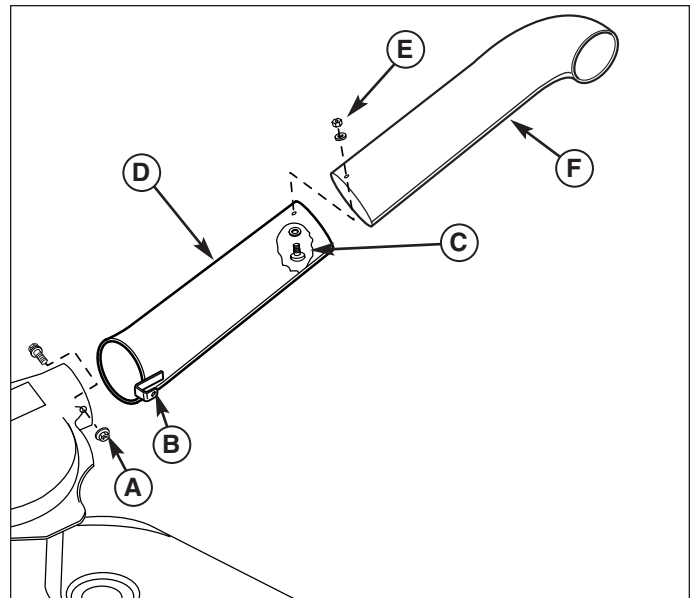

Figure 10. Install Tubes
1. Locate the lower tube (D, Figure 10) and upper tube (F).
2. Assemble the upper and lower tubes using two #10-32 x 1/2 screws (C), washers, and #10-32 nuts (E).
4. Connect the lower tube (D) to the turbo. Lock the clip (B) on the flange nut (A).